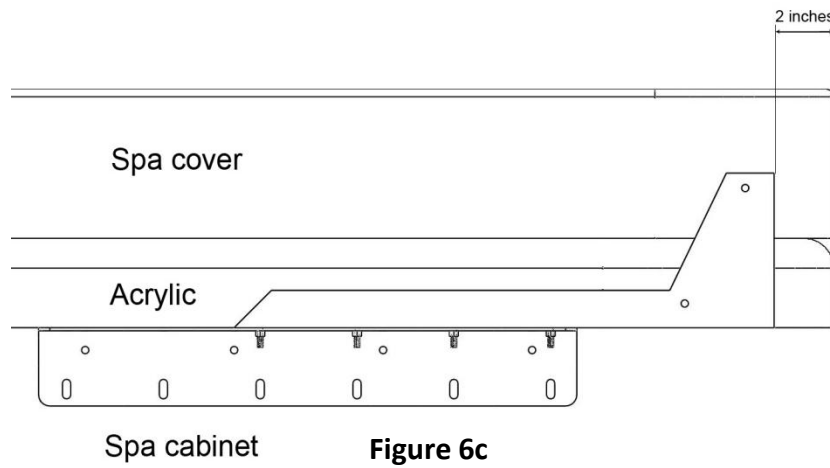

Figure 6c
c. The rear of the Channel Bracket (cvBB) should be 2 inches from the rear edge of the acrylic. The top of the Side Mount Bracket (cvAA) should be flush with the top of the spa cabinet. See Fig 6c.